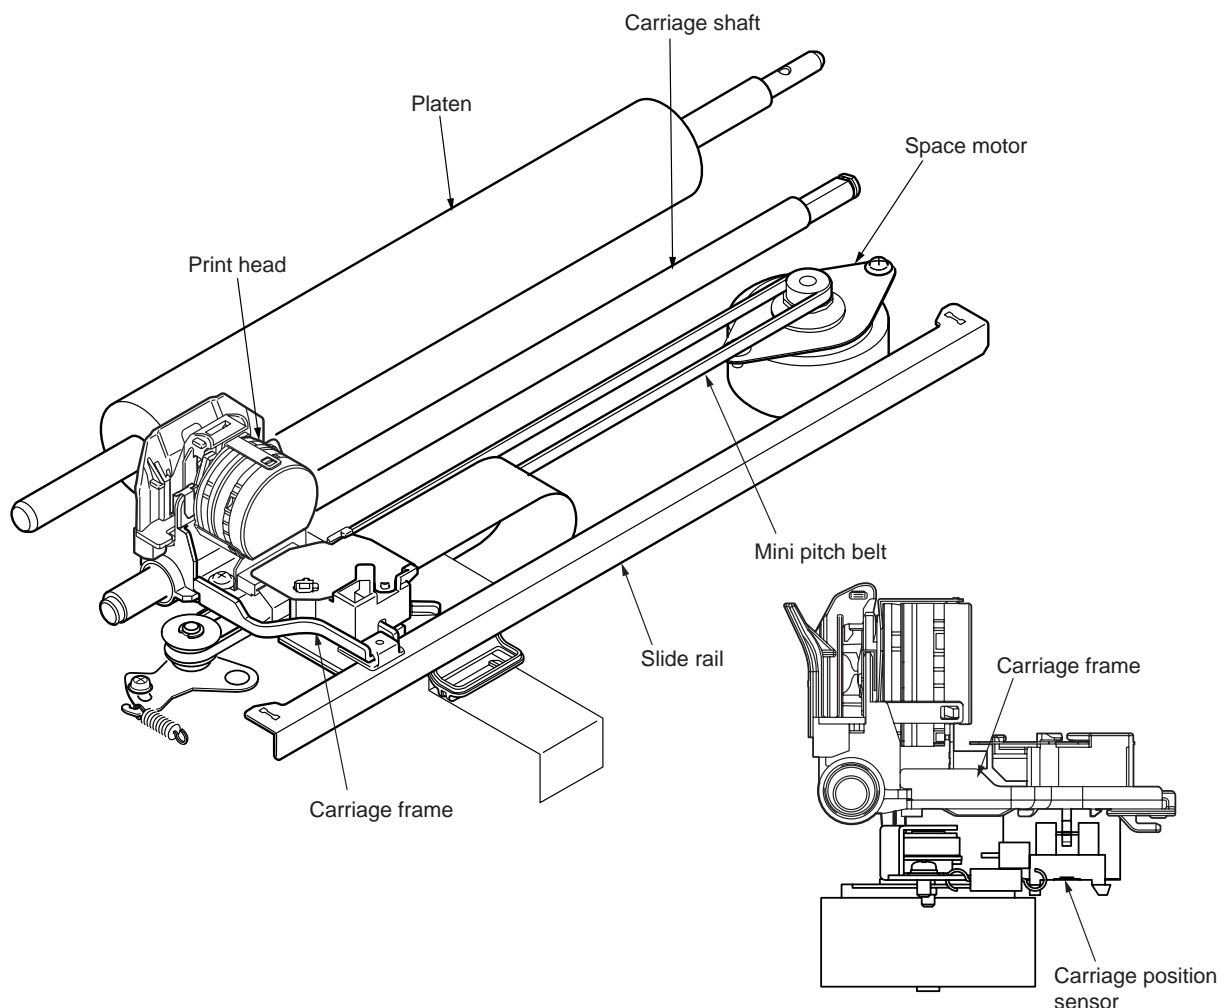

Figure 3
2.3.2 Mechanism and operation of space (See Figure 3)